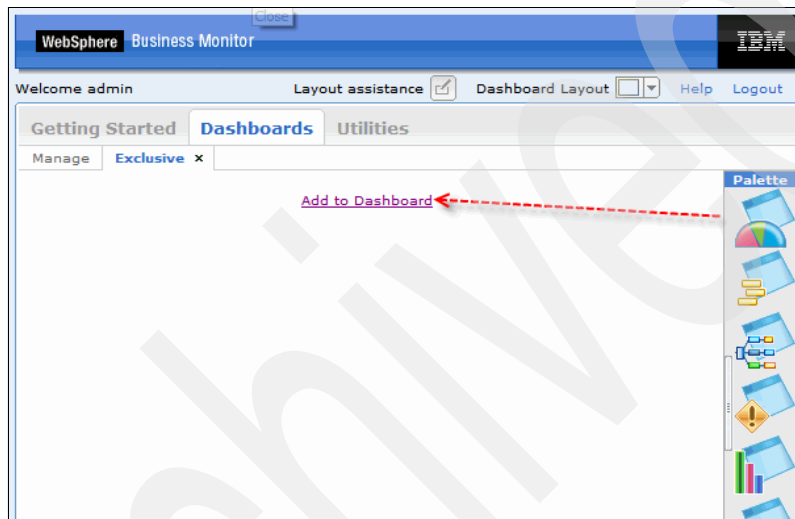

Figure 3-65 Adding data from a dashboard by using the Palette
- ▶ From a dashboard using the Palette (Figure 3-65):